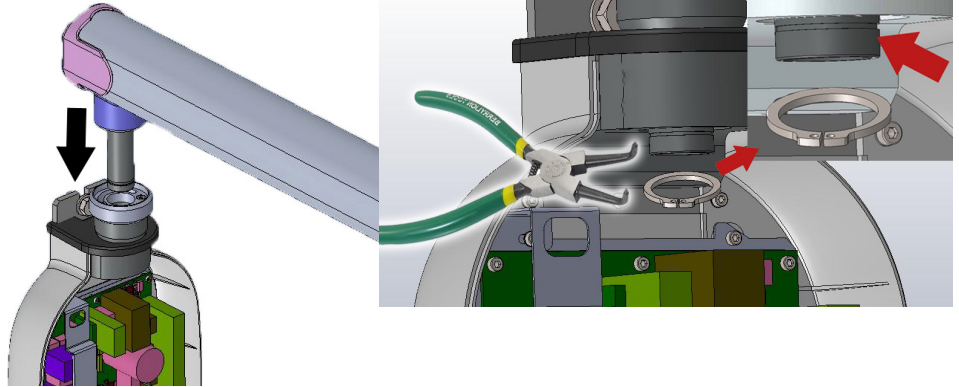

Figure 21
- Apply grease to the straight arm insertion rod and inner area of the bearing block. Mount the straight-arm on the base unit bearing block and fix back the circlip to the straight-arm guide rod using circlip pliers as shown in Figure 21 .